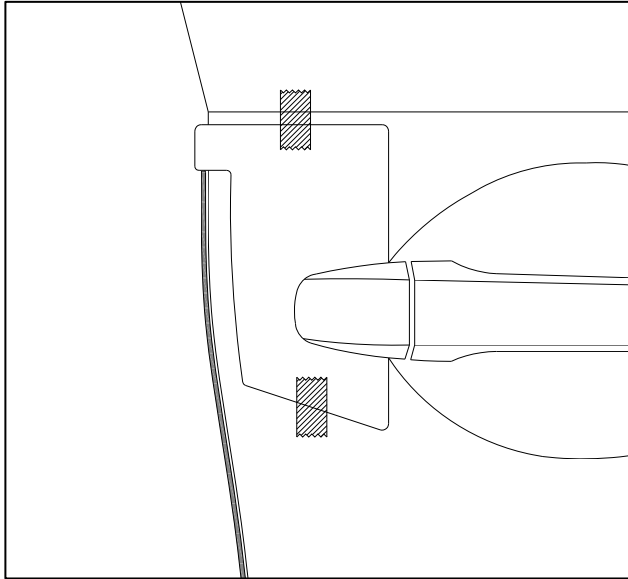

Fig. 1-10
- (l) Align top edge of DEG (labeled Front Passenger) with lower edge of template alignment notch as shown. **NOTE:** The top of the front passenger DEG has a cutout relief located approximately 1.5 inches from the end. (Fig 1-10).